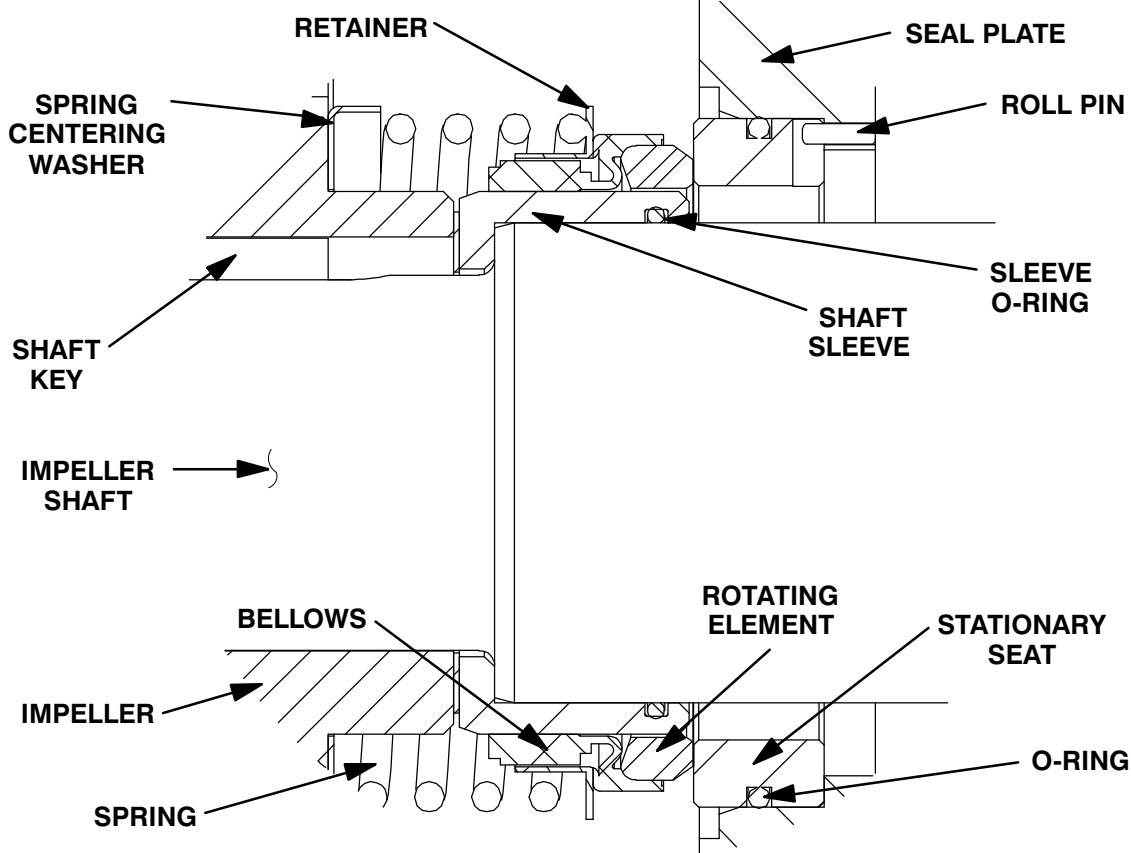

Figure 9. Seal Assembly
To ease installation of the seal, lubricate the stationary seat O-ring, the I.D. of the bellows and the O.D. of the shaft sleeve (7) with "P-80[®] Emulsion" or water. **Do not** use oil or any substitute lubricant other than water. Apply a drop of light lubricating oil on the finished faces. Assemble the seal as follows, (see Figure 9).